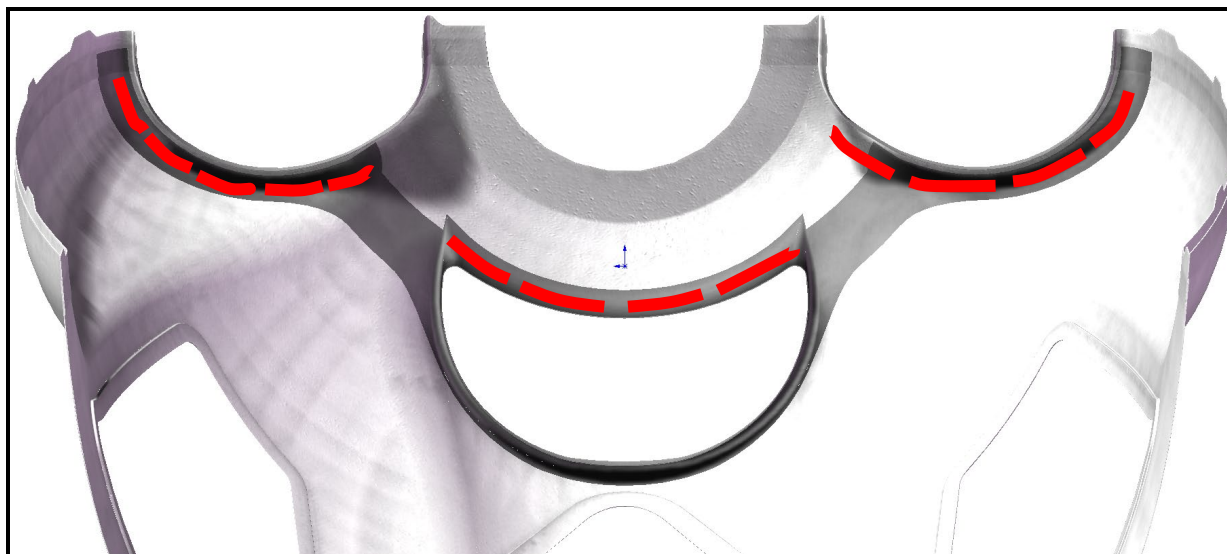

Figure 6 - RM1072-001 UHMW Application Zones
- c. Apply RM1072-001 in 3-4" strips. Longer strips may be difficult to conform to cowl curvature and be more prone to peeling. See Figure 6. "Burnish" tape on with a rounded tool to achieve maximum adhesion.